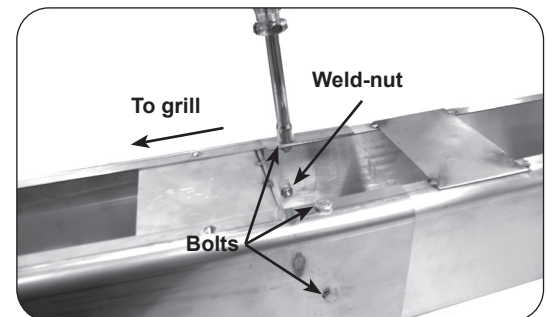

Fig. 27-2 Fasten extension to post
2. From outside the joined post and extension, insert one of the $\frac{1}{4}$ X 20"-5/8 bolts (supplied) into each of the five (5) bolt holes and tighten each using a $\frac{7}{16}$ " socket driver or wrench (see Fig. 27-2).